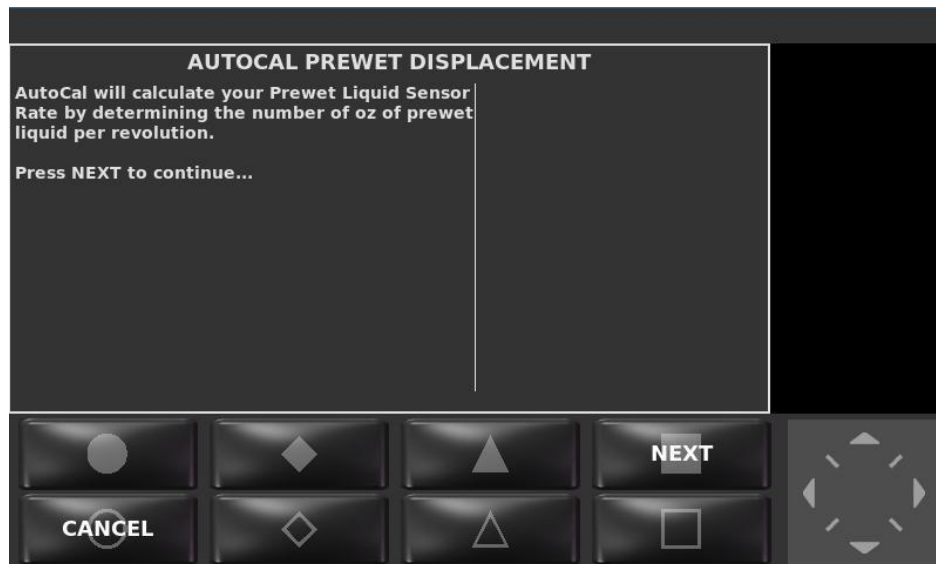

Figure 9: AutoCalibration Prewet Material Displacement Wizard
- STEP 6: The AutoCal Displacement wizard will appear, as shown in Figure 9.